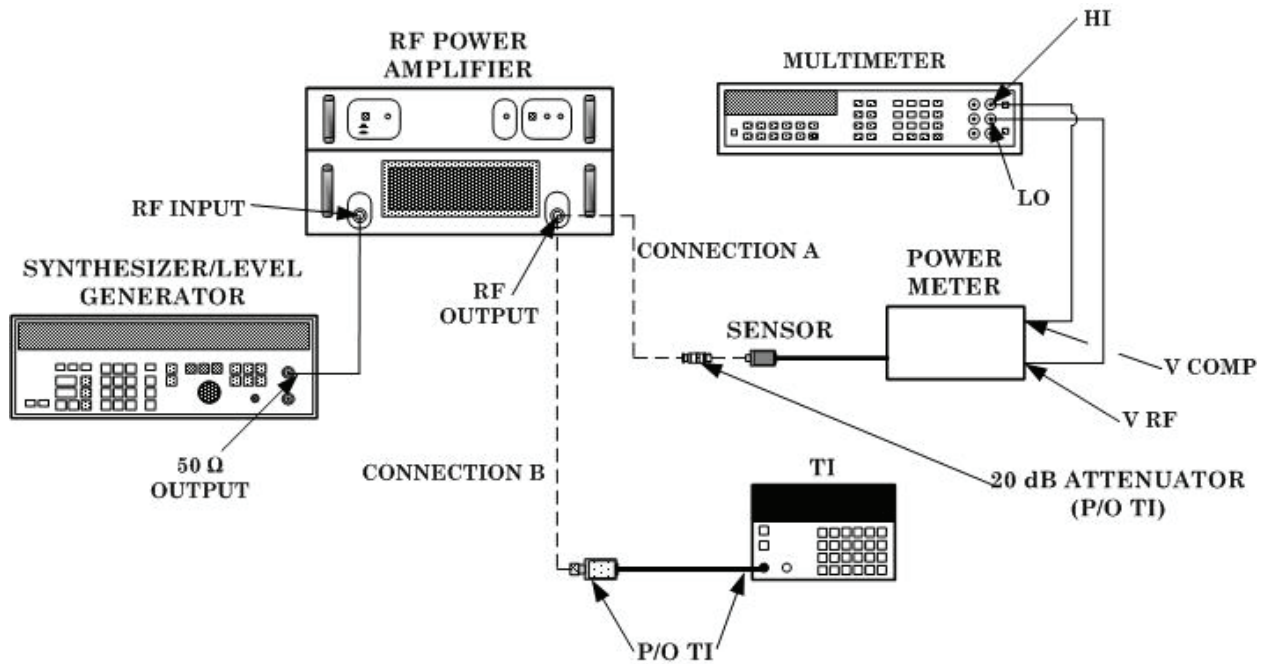

Figure 2. +15 and +25 dBm accuracy – equipment setup.
(9) Position synthesizer/level generator controls for a 50 MHz, -86 dBm output and connect equipment as shown in figure 2, CONNECTION A.
(14) Disconnect cable from input of amplifier and connect equipment as shown in figure 2, CONNECTION B.
(15) Reconnect cable to input of amplifier. If display does not indicate power recorded in (13) above  $\pm 0.18$  dBm, perform **b** (32) through (51) below, and (52) through (54) for (16) below.
(16) Repeat technique of (9) through (15) above for a power level of +5 dBm in (10) above.